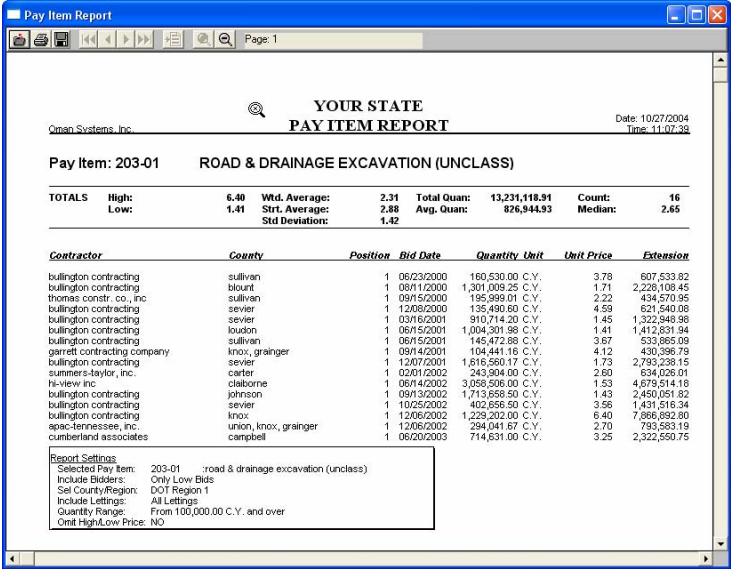

Figure 2.3g
- PREVIEW** This option will display a report showing all the prices you have selected. If the “Show Excluded Items on Report” box is checked, then the report will also list at the bottom any prices that have been deleted. See figure 2.3g.